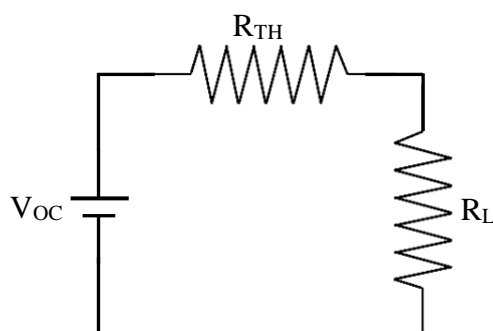

Figure 8.2: Thevenin's Equivalent Circuit
6. Mount the Thevenin's equivalent circuit using voltage V_{OC} and resistance R_{TH} in series across the load resistance as shown in Fig 8.2